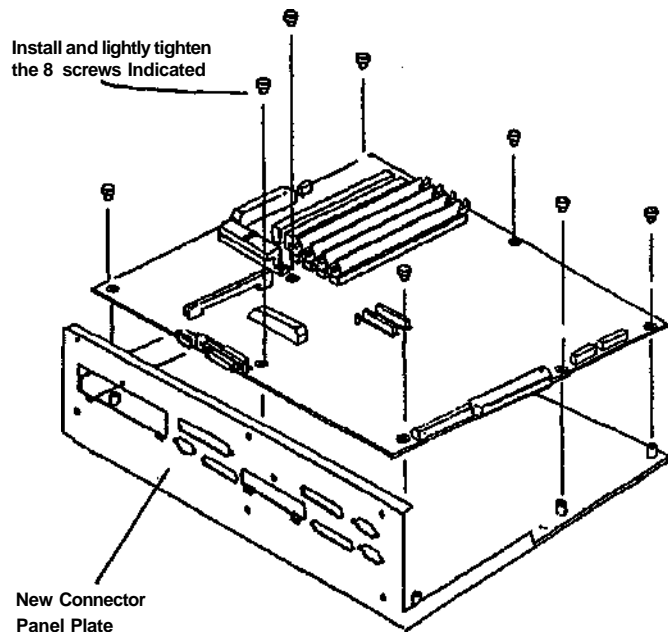

Figure 9 Installation of MCB onto new Connector Panel Plate
18. Remove the 8 mounting screws that secure the MCB to the old Connector Panel Plate. (See Figure 9 for location of screws.)
20. (Figure 9): Place the MCB on the new Connector Panel Plate, and secure it with the hardware previously removed.